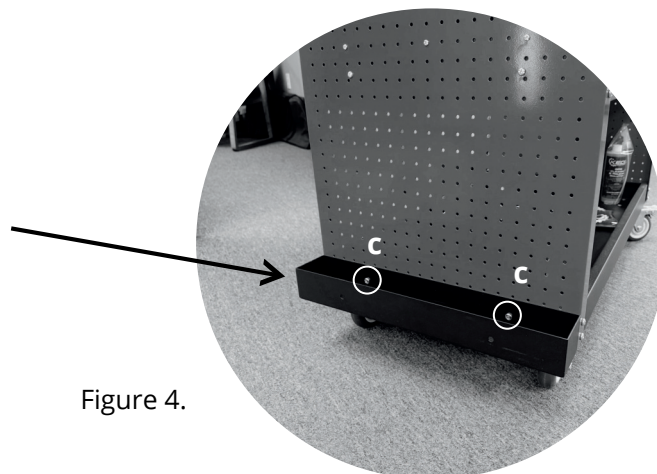

Figure 4.
12) Locate the Lower Tool Pan in the bottom tray of the lower cart (see Figure 4.).
13) Remove the (2) middle/lower screws **(C)** near the bottom on the left side of the cart.